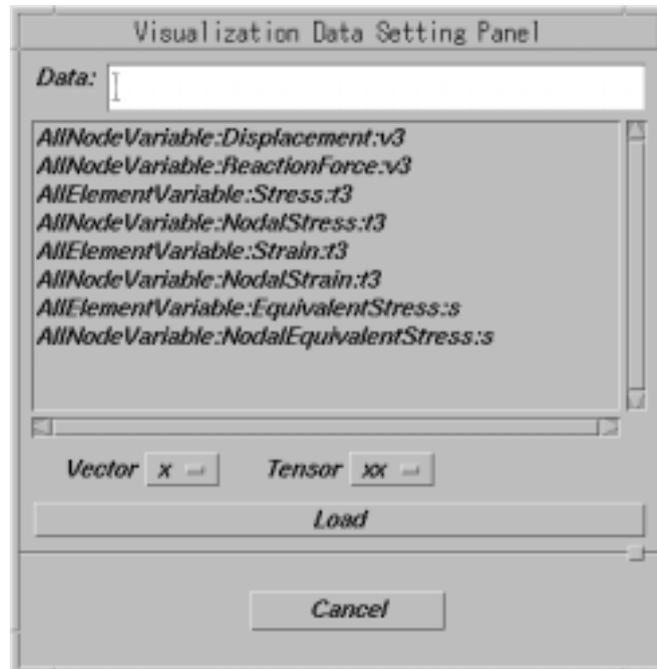

Fig. 6-9. Input Dialog for Analysis Result Data Set
1. Clicking the **Read Results Dataset (RRD)** button of the Server control dialog can open the input dialog of analysis result data set (Fig. 6-9).
3. The variables of analysis results are displayed in the input dialog for the analysis result data set. Input variables of the analysis results can be selected. Possible input variables are presented in the example shown in Fig. 6-9.